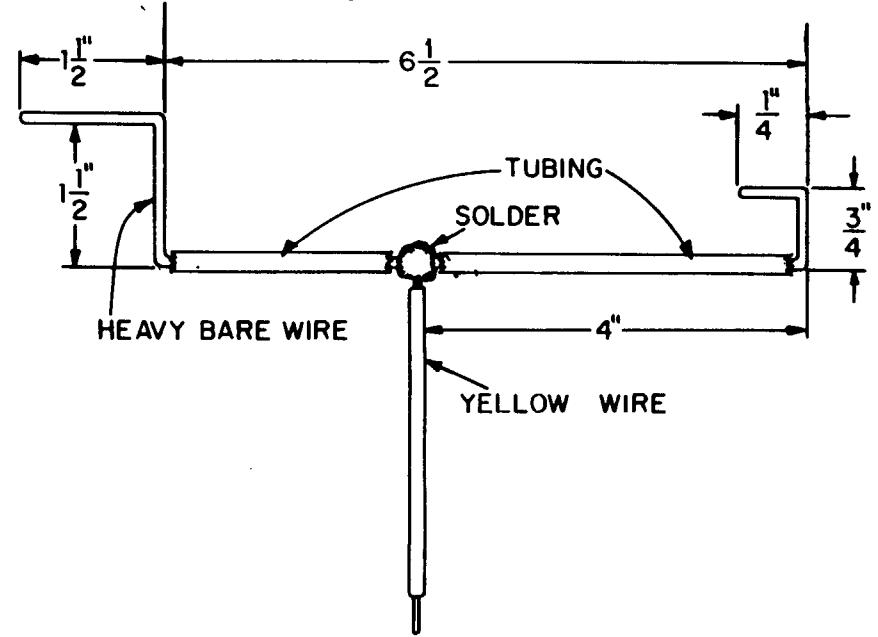

FIGURE 24. BUSBAR ASSEMBLY
- Cut an 11" piece of the large bare wire and two pieces of the large tubing; one 2" and one 4". Slide the two pieces over the large bare wire. Form the wire as shown in Figure 24. Solder a yellow wire to the bare wire as shown.